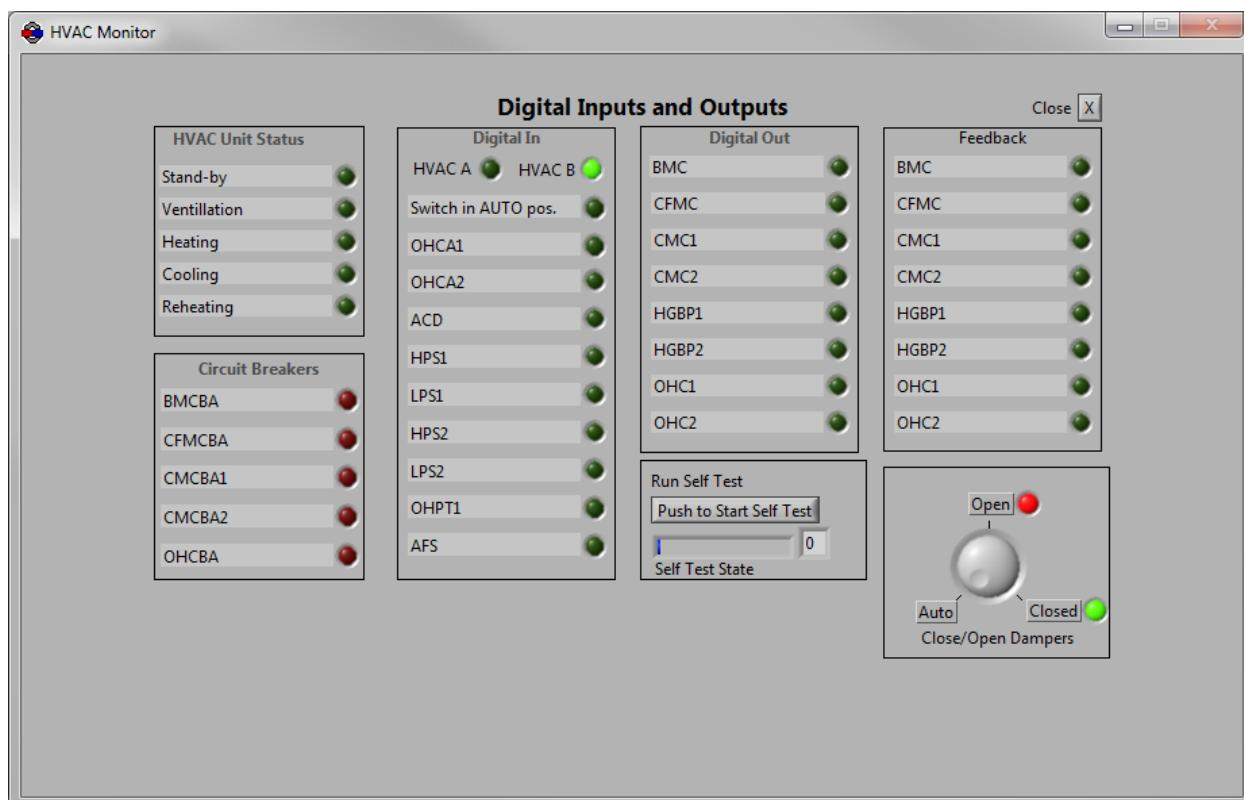
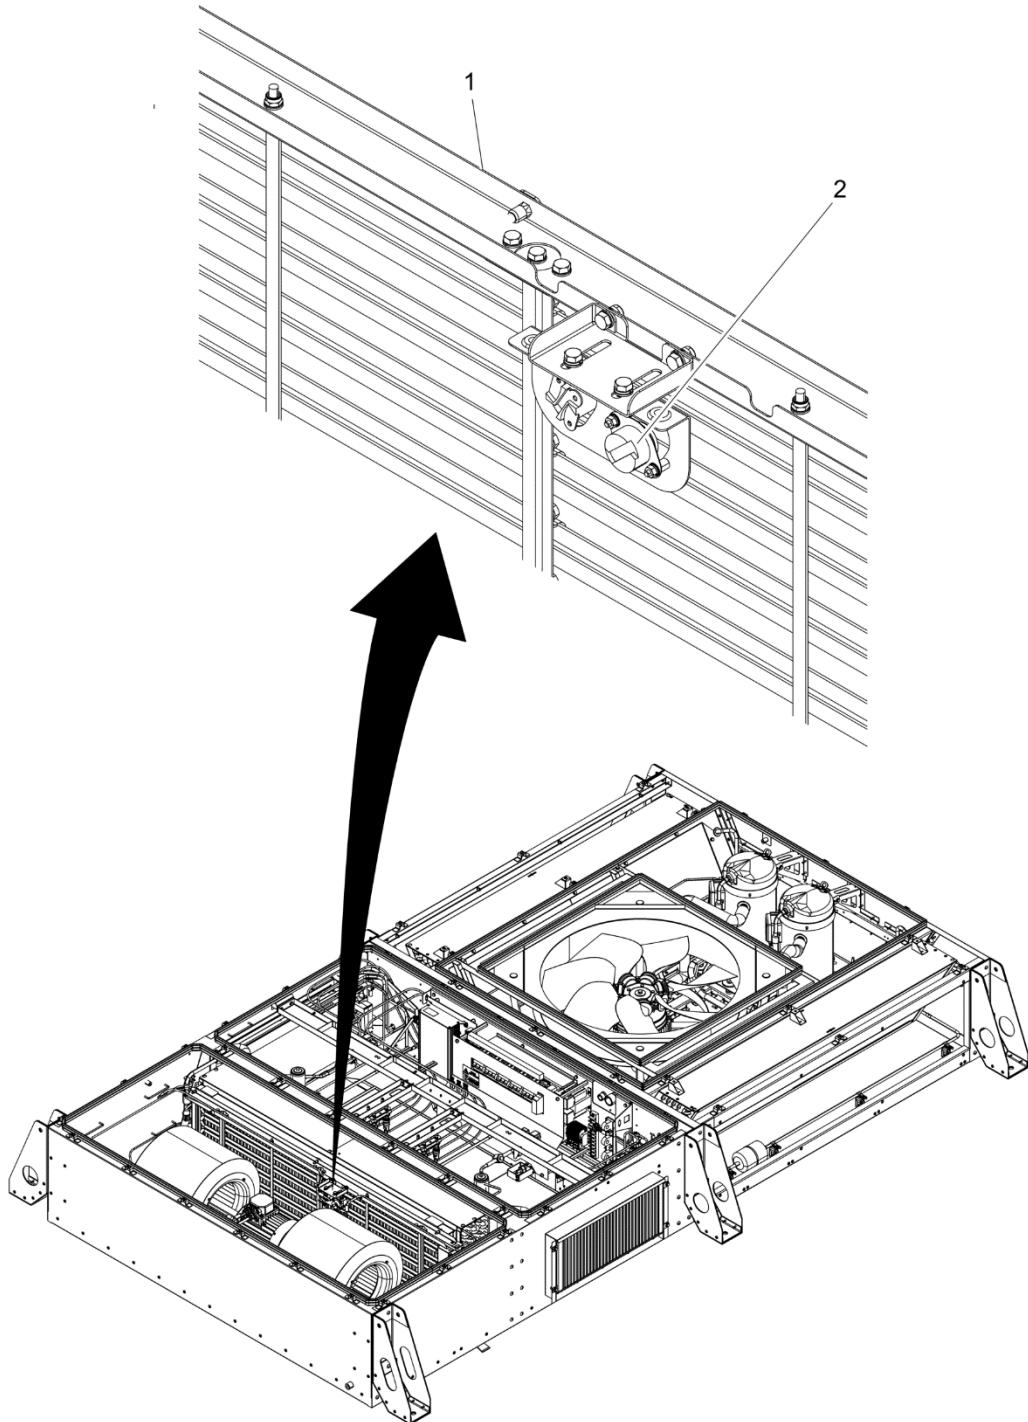

Figure 5-8: PTU Digital Inputs and Outputs Screen
Figure 5-9: OHPT1 Functional Test
Refer to Figure 5-8 and Figure 5-9.
1. Remove evaporator section cover to gain access to overhead heater (1) protective thermostat 1 (OHPT1) (2).
2. Using PTU, click “Digital I/O” button to open Digital Inputs and Outputs screen. Refer to Figure 5-8.